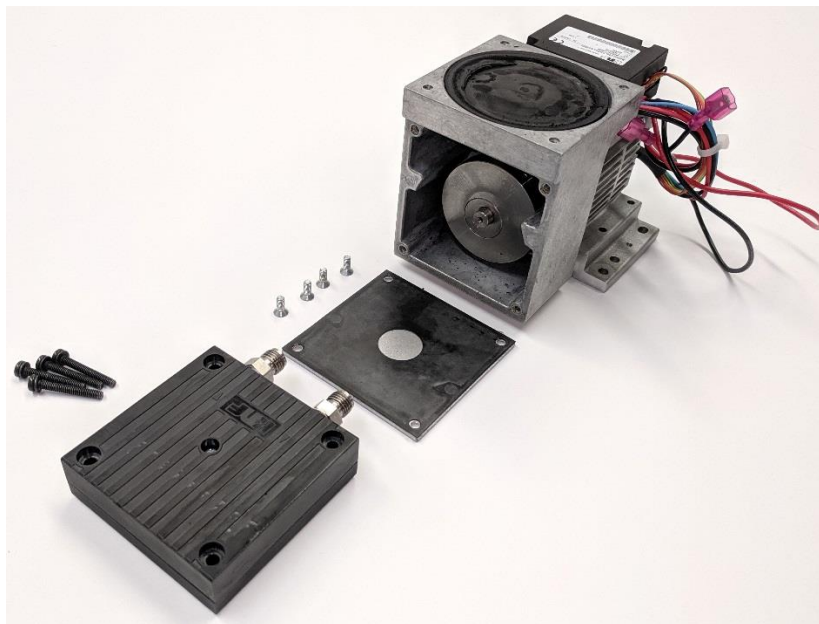

Figure 74: Vacuum Pump with Pump Head Unit Removed
3. Remove the four corner screws holding the pump head unit in place and lift the pump head unit off. This will expose the top of the diaphragm. See Figure 74.